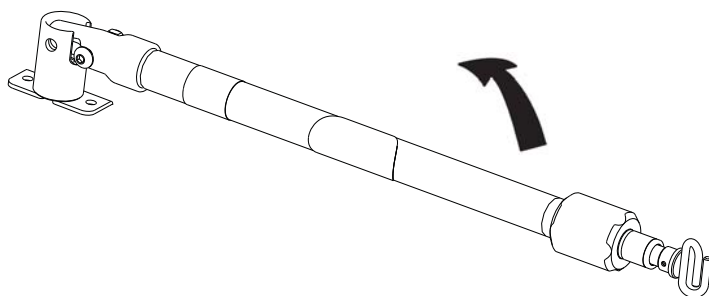

Figure 48.1: 3-Stage I.V. Pole Storage Position
1. Lift and pivot the pole from the storage position and push down until it is locked into the receptacle (A).
2. To raise the height of the pole, turn the lock actuator (B) counterclockwise and pull up on the bottom telescoping portion (C) of the pole to raise it to the desired height.
3. Turn the lock actuator (B) clockwise to lock the bottom telescoping portion in place.
4. For a higher I.V. pole, pull up on section (D) until the spring clip (E) engages.
5. Hang I.V. bags on the I.V. hook (F).
6. To lower the I.V. pole, push in on the spring clip (E) and slide section (D) down into section (C). Turn the lock actuator (B) counterclockwise and slide section (C) into the bottom tube.
7. Turn the lock actuator (B) clockwise to tighten.
8. Lift up and pivot the pole down into the storage position (see Figure 48.1).